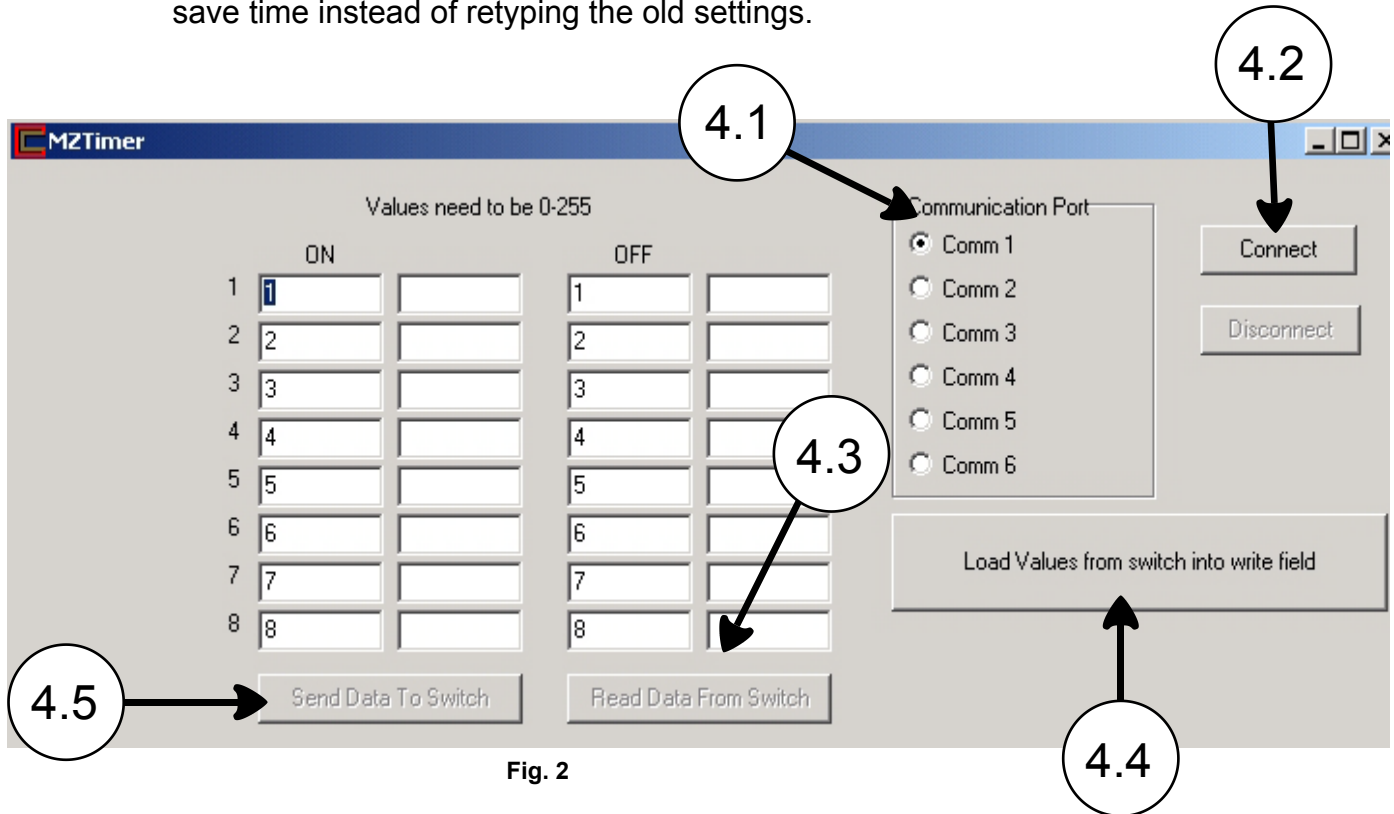

Fig. 2
3. Connecting the MZRelay board to the MZTimer. (see fig. 2 below)
4. Programming the MZTimer (see fig. 2 below)